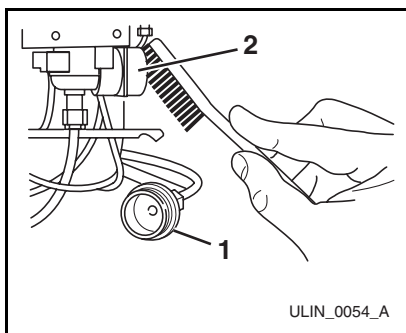

Figure 12
4. Disconnect the hose connector (**Figure 12, 1**) from the water solenoid valve (**Figure 12, 2**).
6. Re-connect the water supply hose connector (**Figure 12, 1**) to the water solenoid valve (**Figure 12, 2**). Tighten the connector securely.